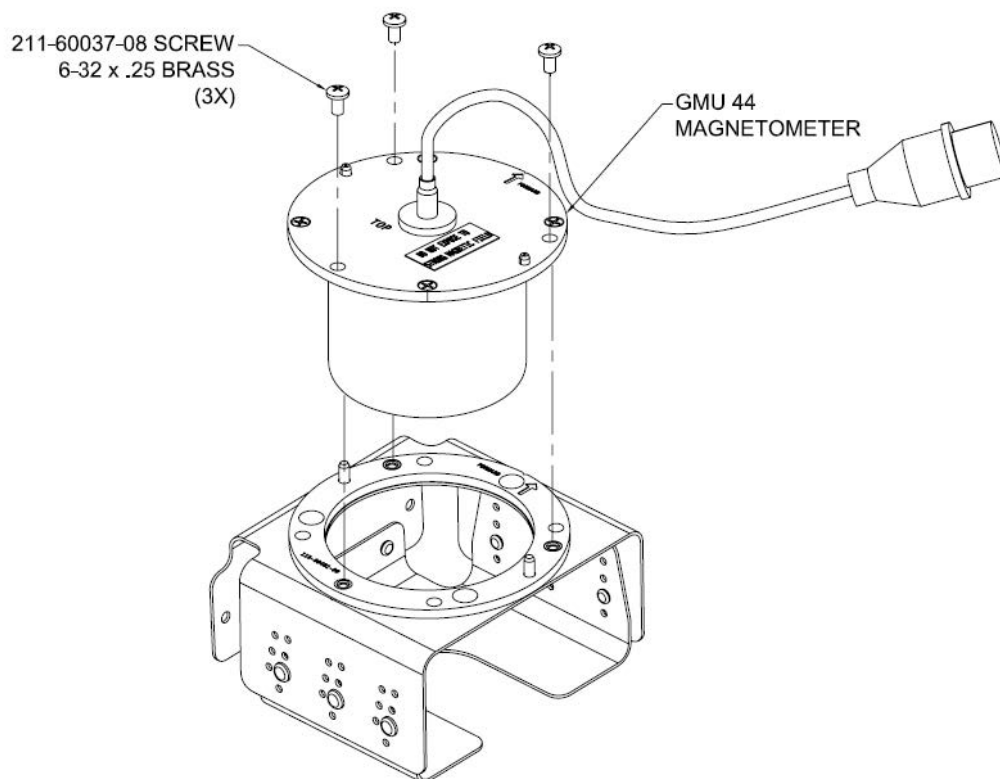

Figure B-13 Secure GMU 22 to the Mounting Bracket Assembly
8. Attach the GMU 22 to the GMU 22 Mounting Bracket as illustrated in Figure B-13 using brass screws.